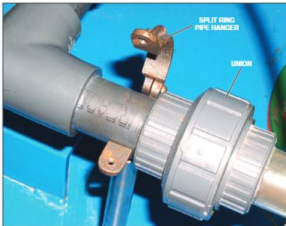

Figure 11. Unlock the Piping
B. Disconnect the centrifugal pump from the piping system by unscrewing the two unions shown in figure 11.
C. Use a Phillips screwdriver to unlock the piping that remains attached to the pump. This is also shown in figure 11.